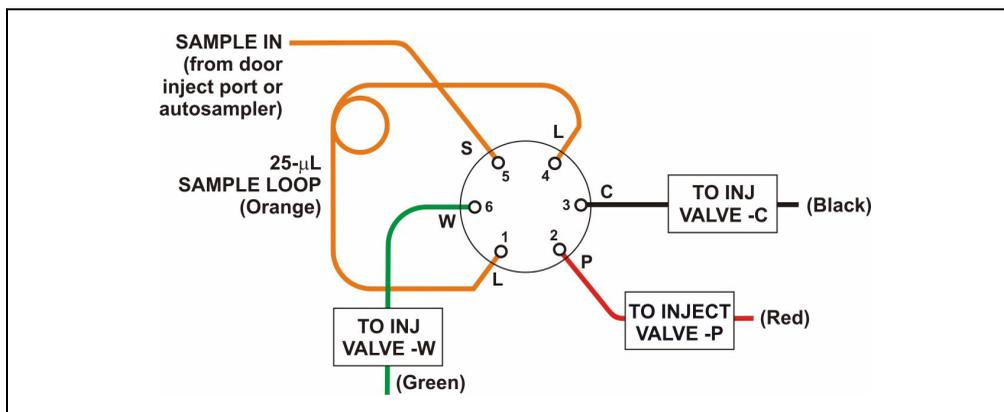

Figure 5-9. Injection Valve Plumbing
5. Reconnect all liquid lines to the injection valve (see Figure 5-9).